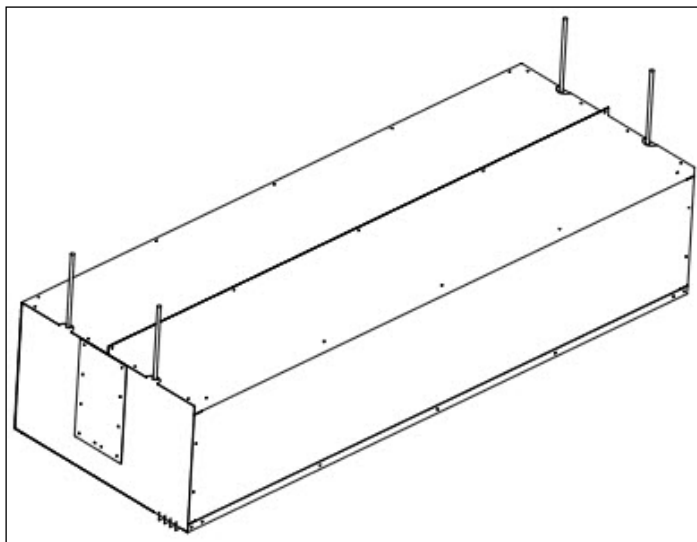

FIG. 2
4. All units are equipped with (4) 3/8" threaded inserts on top for overhead installation (FIG. 2)
5. Determine the exact mounting locations to suspend the unit above the ceiling so that the unit is centered and parallel with the door opening. Use (4) threaded rods to suspend the enclosure to the ceiling.